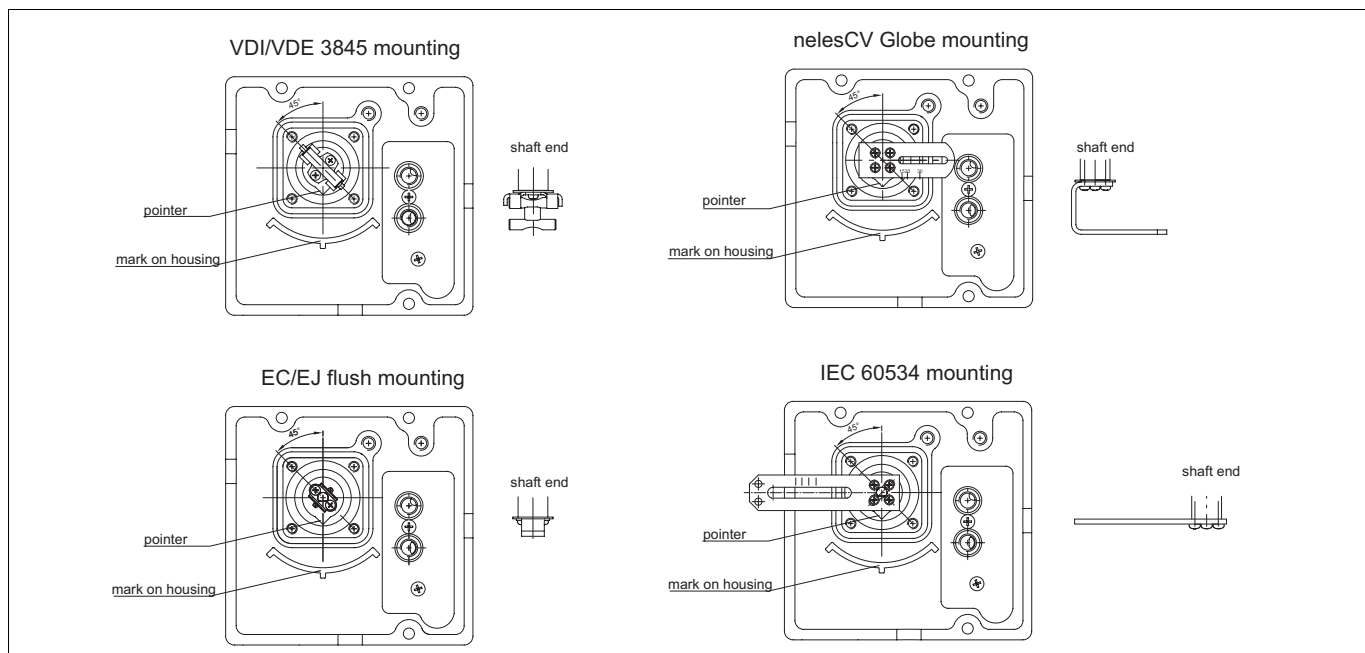

Fig. 5 Shaft coupling alternatives
Shaft coupling alternatives for the controller for Metso Automation actuators are shown in Fig. 5.
- ❑ Mount the U-shaped coupling (47) to the shaft. Apply thread-locking compound to the screws (48) and tighten firmly.
- ❑ Remove all protective plastic plugs (5 pcs.) from all pneumatic connections. Mount the metal plugs (53) to the unused controller connections with sealant (shown in 12.3 - 12.5)
- For EJ (single acting, spring to close) and EJA (single acting, spring to open) actuators, mount a metal plug (54) with sealant to the C1 connection at the bottom of the controller.
- ❑ E\_05 actuator requires a mounting plate (39). Ensure the coupling plate is mounted as shown in 12.4 and 12.5. Note the O-rings (38).
- ❑ Mount the O-ring (49) into the square groove in the bottom of the controller.
- ❑ Place the valve controller on top of the actuator so that the pointer of the shaft washer (16) is located in the position shown in Fig. 5.
- ❑ Fasten the screws (4).
- ❑ Mount the H-shaped coupling (47) to the shaft. Apply the thread-locking compound to the screw (48) and tighten firmly.
- ❑ Remove all protective plastic plugs from the pneumatic connections (5 pcs.). Mount the metal plugs (54) with sealant to the unused controller connections at the bottom of the controller.
- ❑ **BJ and other single acting actuators:** mount a metal plug (53) with sealant to the C1 connection.
- ❑ Set the direction arrow of the actuator in the direction of the valve closure member and attach the ear (2) to the indicator cover in the position shown in Section 12.6. Secure the screw of the ear using e.g. Loctite and tighten firmly.
- ❑ Attach the bracket (1) to the ND9100P.
- ❑ Attach the bracket (1) to the actuator. The shaft coupling of the ND9100P must fit into the ear (2) so that the pointer of the shaft washer (16) is located in the position shown in Fig. 5.